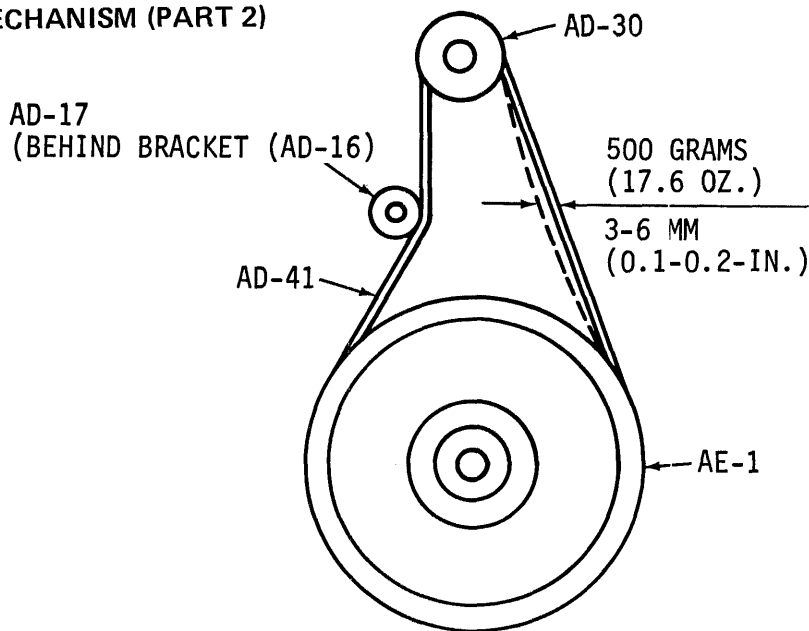

Figure 5-3. ADJUSTMENT OF TIMING BELT (AD-41)
C. Timing Belt (AD-41) (Refer to Figure 5-3)